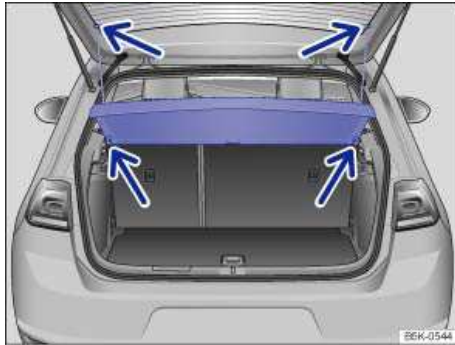

Fig. 89 In the luggage compartment: Installing and removing the luggage compartment cover.
- Unhook the supporting cords from each side of the rear hatch ⇒ fig. 89 (top arrows).